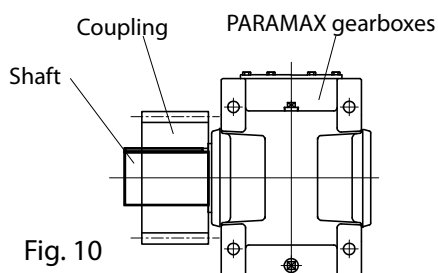

Fig. 10
- The sprocket wheel and pinion must be fitted as tightly as possible onto the PARAMAX DRIVE so that the load contact point is as close as possible to the vertical centre line of the unit (Fig. 10).